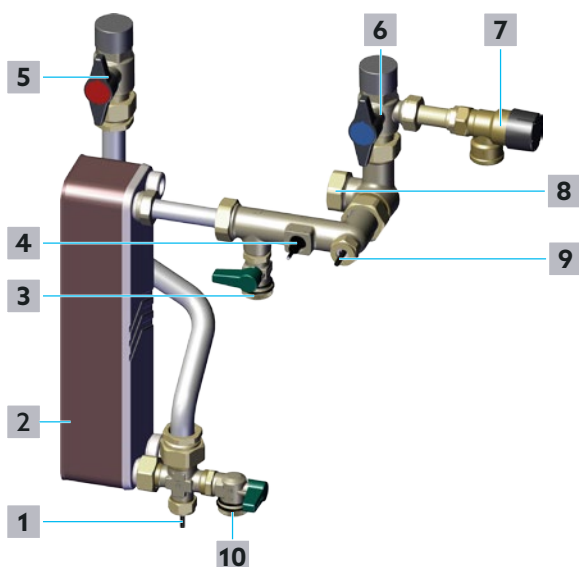

Fig. 34: Potable water circuit
- 2 Slowly close the shutoff ball valve for potable water (hot) (position **5** in Fig. 34 on page 37 and position **10** in Fig. 2 on page 11).
- 3 Slowly close the shutoff ball valve for potable water (cold) (position **6** in Fig. 34 on page 37 and position **11** in Fig. 2 on page 11).
- 4 Unscrew the cap of the fill and drain ball valve for potable water (hot) (position **10** in Fig. 34 on page 37 and position **16** in Fig. 2 on page 11).
- 5 Connect the drain hose for potable water to the fill and drain ball valve for potable water (hot) (position **10** in Fig. 34 on page 37 and position **16** in Fig. 2 on page 11).
- 6 Open the fill and drain ball valve for potable water (hot) (position **10** in Fig. 34 on page 37 and position **16** in Fig. 2 on page 11).
- 17** Close the fill and drain ball valve for potable water (hot) (position **10** in Fig. 34 on page 37 and position **16** in Fig. 2 on page 11).